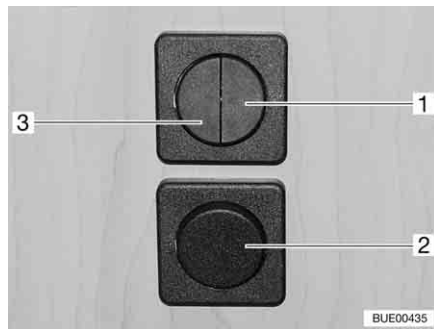
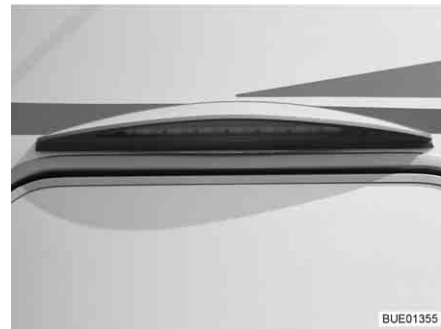

Fig. 39 Light switch
Fig. 40 Awning light
- Seating group lighting (Fig. 39,1)
- Awning light (Fig. 39,2 and Fig. 39,3)
- ▷ For models without the light switch (Fig. 39,2) the awning light (Fig. 40) is switched on or off using the rocker switch (Fig. 39,3).